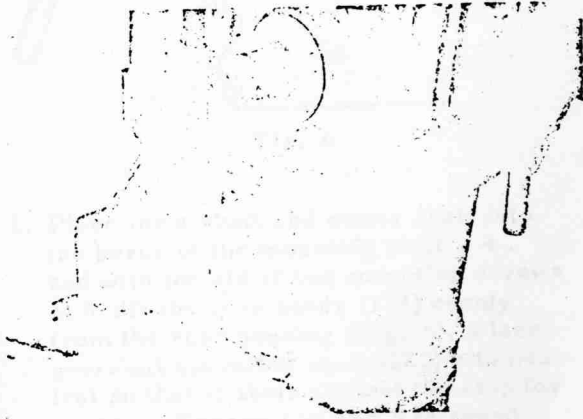

Fig. 1
2. Remove locating screw (801) for the bush (804) of the speedometer and withdraw the speedometer drive from the main housing, using tool . 14 . (Fig. 1).